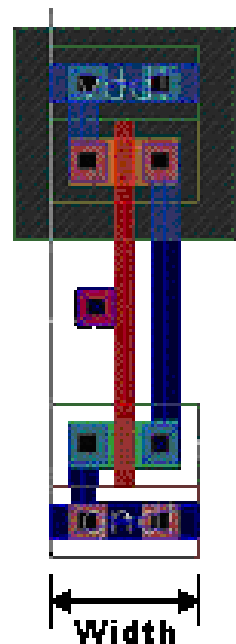

Figure 1: INV layout.
1. The width of a layout is defined as the distance from the left edge of VDD/GND rail to the right edge of that same rail, as identified for the inverter in Figure 1. Width = $4.8\mu\text{m}$ for this minimum-sized inverter.